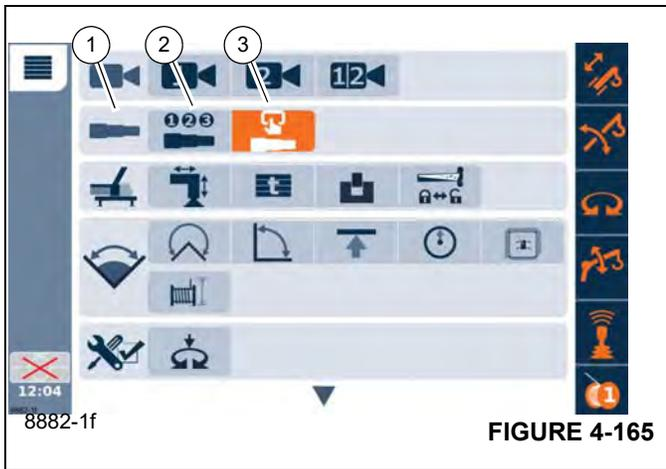

FIGURE 4-165
The Tele-Automatic Menu Group (1), (Figure 4-165) includes the following boom telescoping function icons:
- Semi-Automatic Telescope Mode (2), (Figure 4-165).
- Boom Configurator (3), (Figure 4-165).